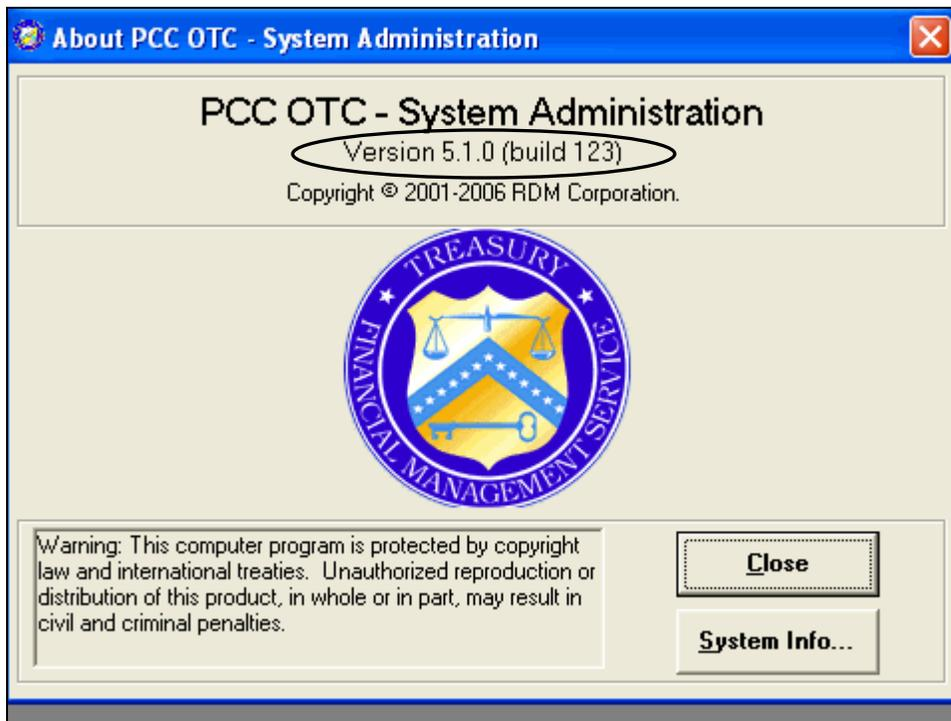

Figure 3.37
3. The screen will display the version number for the SAT (circled). This information may be requested from the FRBC or the Treasury for troubleshooting purposes.(Figure 3.37)